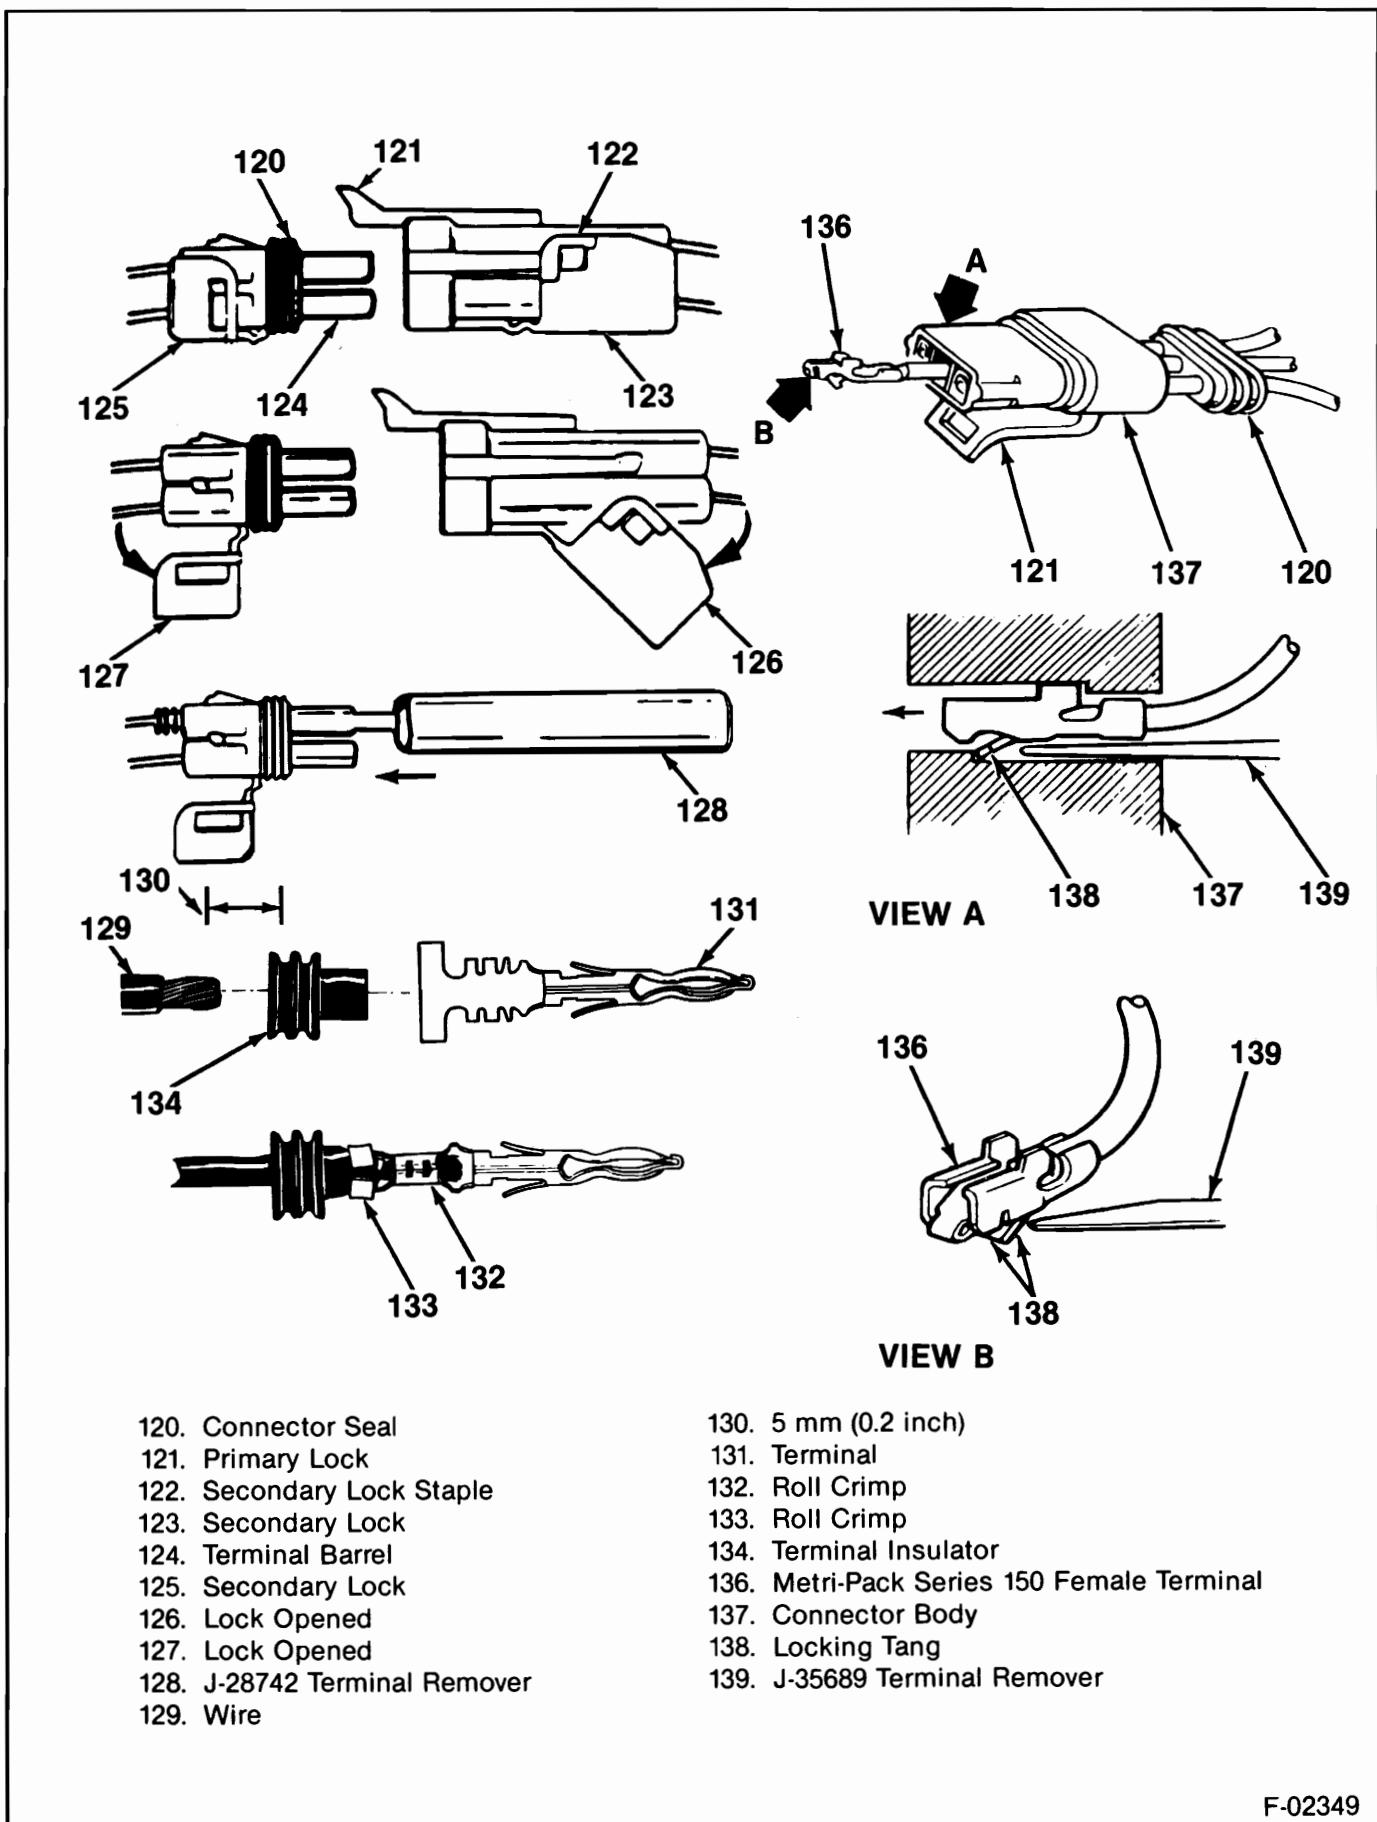

Figure 21—Weather-Pack and Metri-Pack Connectors
Special connectors known as Weather-Pack connectors (figure 21) require a special tool J-28742 for servicing. This special tool is required to remove the pin and sleeve terminals. If removal is attempted with an ordinary pick, there is a good chance that the terminal will be bent or deformed. Unlike standard blade-type terminals, these terminals cannot be straightened once they are bent.
Remove or Disconnect (Figure 21)
1. Primary lock (121) by lifting.
2. Connector body (137).
3. Connector seal (120) by pulling the seal back onto the wires away from the connector body (137).
4. Terminal (136) by inserting J-35689 (139) into the connector body (137) to depress the locking tang (138), then push the wire and terminal through the connector body (figure 21).
5. 5 mm (0.2-inch) of the wire insulation (130).
Install or Connect (Figure 21)